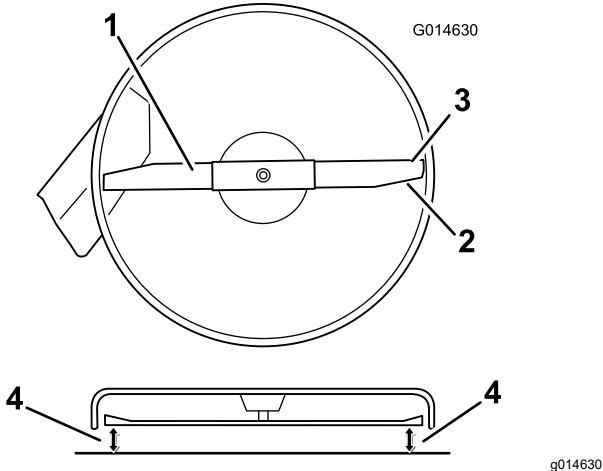
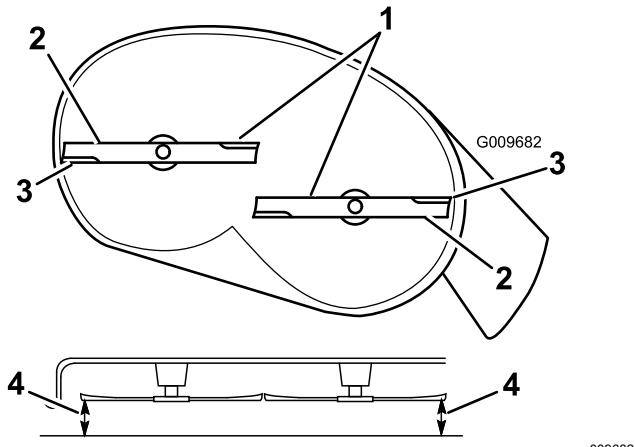

Figure 57
Figure 58
- Carefully rotate the blade(s) so that they are all side to side (Figure 57 and Figure 58).
- Measure between the outside cutting edges and the flat surface (Figure 57 and Figure 58).